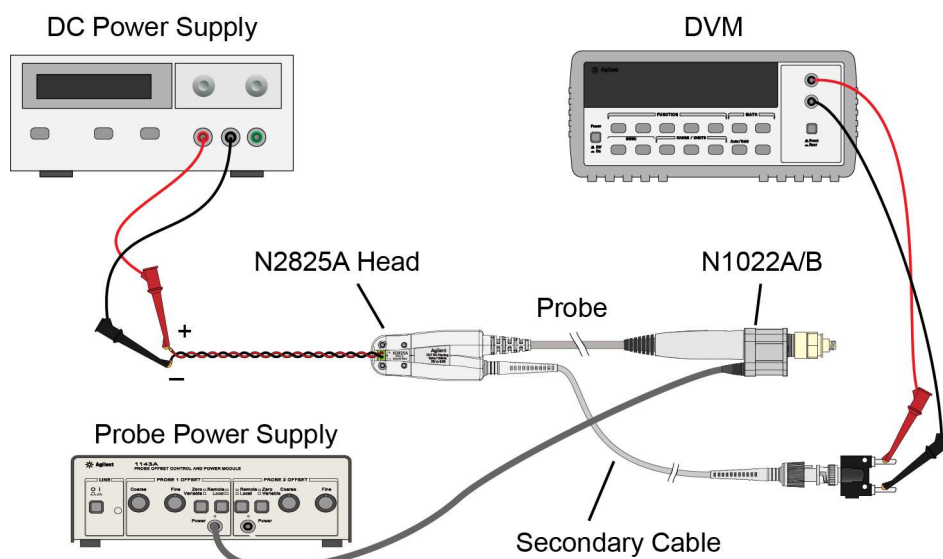

Figure 54 Test Setup for Measuring V_{out}
- 4 Move the multimeter's leads to the banana plug on the output of the N1022A/B as shown in Figure 54.
- 10** Connect the multimeter's leads to the banana plug on the output of the N1022A/B as shown in Figure 54 on page 108.